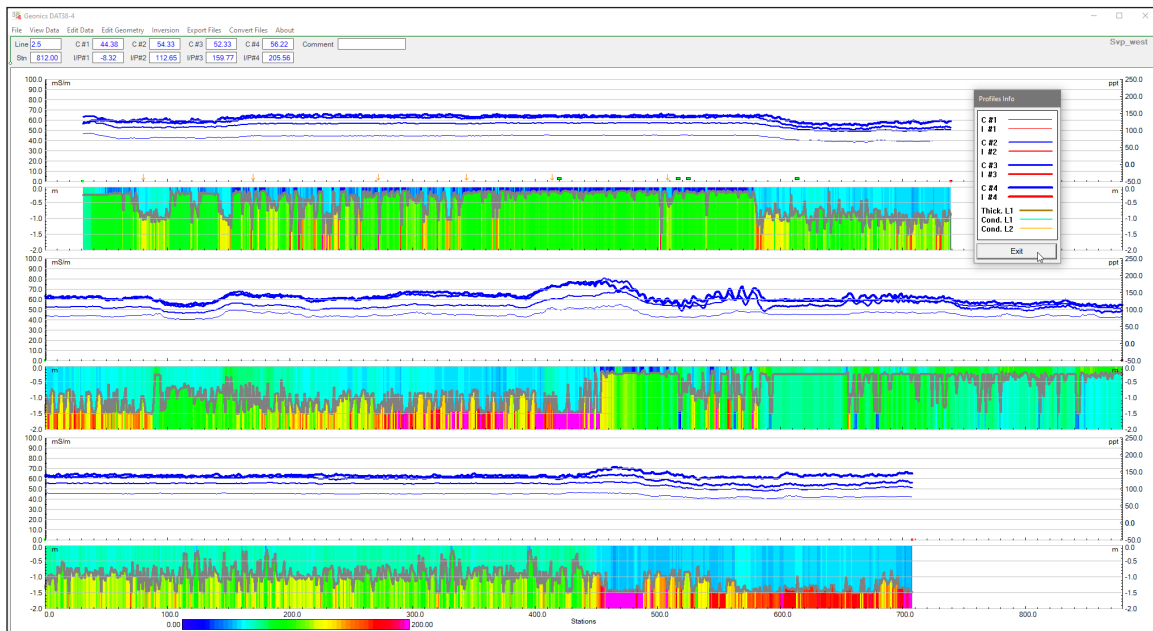

Figure 3.27 DAT38-4 screen with displayed legend for each profile
- Select this option to open a small window labeled Profiles Info (Figure 3.27) that displays graphic attributes for each profile.